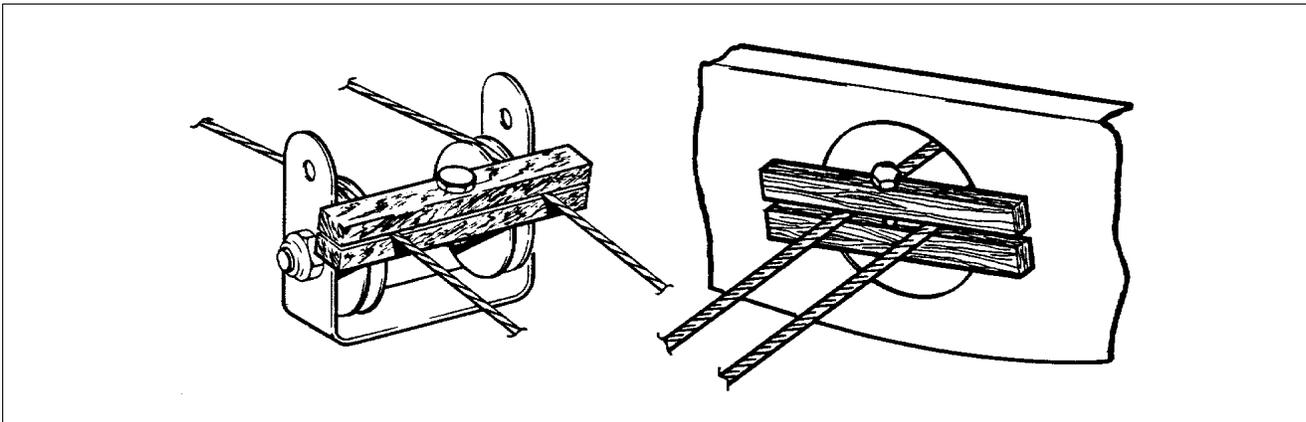

Figure 27-22. Methods of Securing Trim Cables
- c. If aft trim cable is not to be removed, block cables at pulleys in aft section of fuselage to prevent them from unwrapping from trim drum. (Refer to Figure 27-22.)
- b. Block trim cables at the first set of pulleys forward of cable turnbuckles in the aft section of the fuselage by method shown in Figure 27-22.